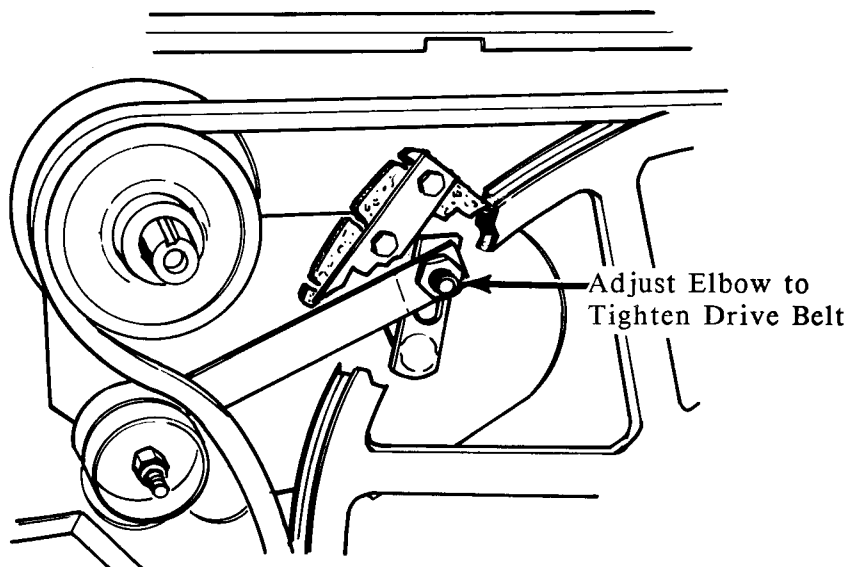

FIGURE 3
2. Check for excessive drive belt wear. If belt is too loose, adjust elbow connection of clutch lever linkage using the slotted hole (See Figure 3). Retighten nut and check belt tension. Readjust elbow if necessary.